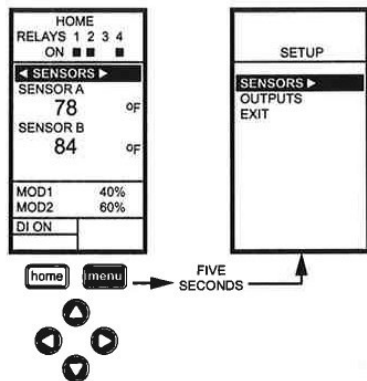
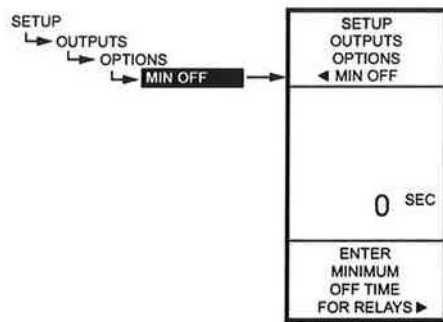

Fig. 1
Fig. 2 Setup – Outputs – Options – Min Off Time
To access the Setup menu, press and hold the MENU button for five seconds. See Fig. 1.
To go from Setup menu screen as shown in Fig. 1 to Min Off screen shown in Fig. 2, follow the steps as listed below:
1. From the Setup menu (Fig. 1), use the Down arrow button (▼) to highlight **OUTPUTS**.
6. Press Right arrow button (▶) to display the Min Off screen (Fig. 2).